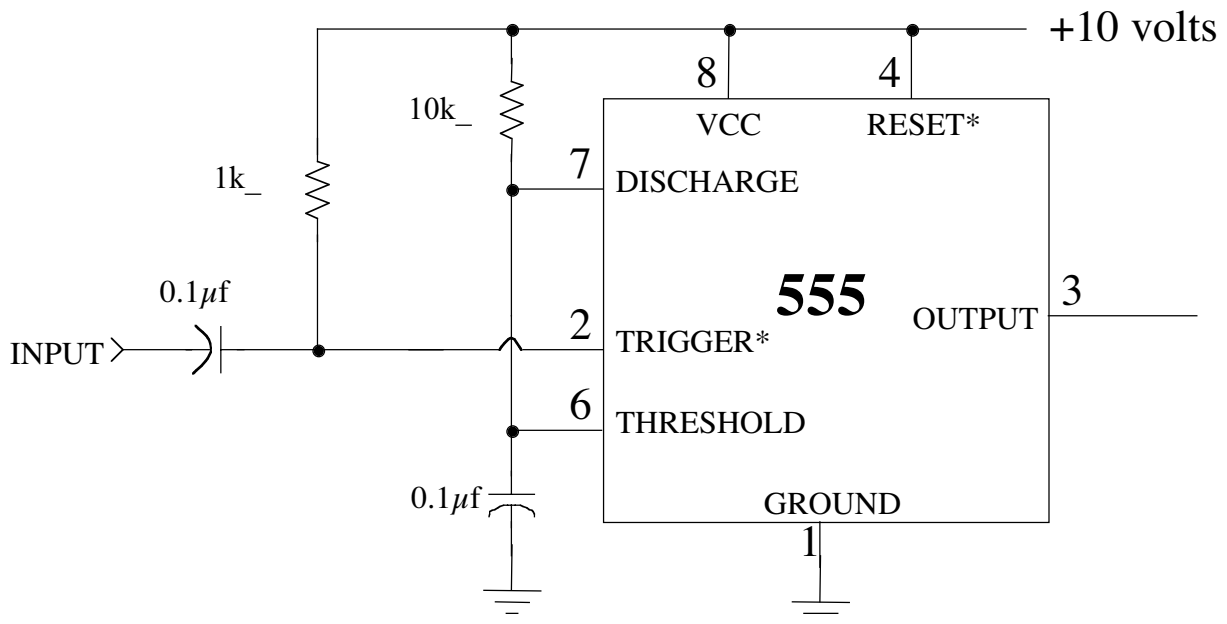

Figure 3. 555 one-shot
A very useful circuit is a one-shot, also called a monostable. Basically a one-shot produces a longer output pulse in response to a short input pulse. These circuits have important applications in digital circuits where they can provide signal delays and can “stretch” very short pulses into longer pulses to operate computer logic more reliably. These circuits also are used in digital communications, biomedical engineering, and any other application where you need to clean up a digital signal in the presence of noise. A typical one-shot circuit using the 555 is shown in Figure 3.
- (a) Construct the 555 monostable shown in Figure 3. Note that you only need to make a few small changes from your previous circuit. Connect the trigger input (Pin 2) to the H-P function generator. **BE SURE THAT THE FUNCTION GENERATOR IS IN HIGH Z MODE.** Adjust the generator output for a 4% duty cycle (a very narrow pulse) at about 100 Hz. See the note below in the box just before the next section for how to do this!